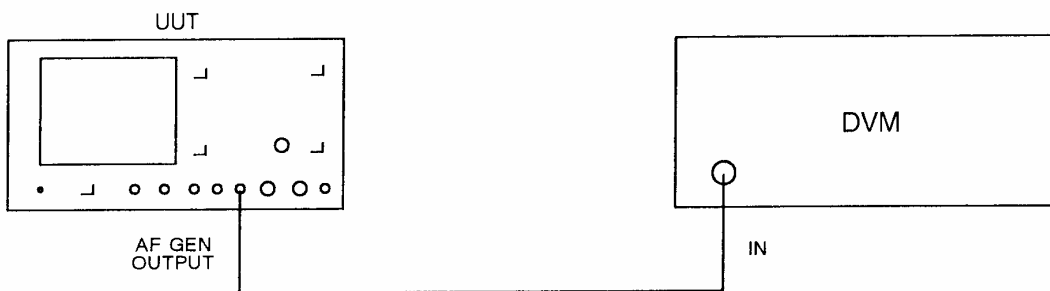

Fig. 5-1-12 Test equipment connections for AF generator output level accuracy performance checks
- (1) Connect the equipment as shown in Fig. 5-1-12.